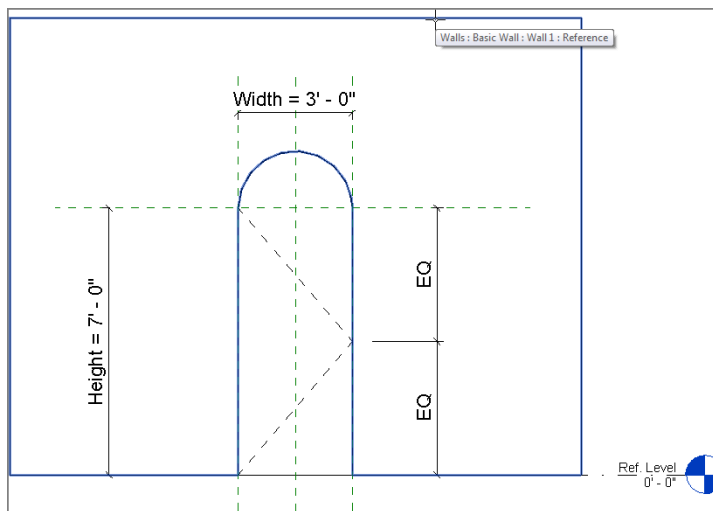

FIGURE 17.17: Setting the face of the wall as the work plane
5. Pick the face of the wall, as shown in Figure 17.17.